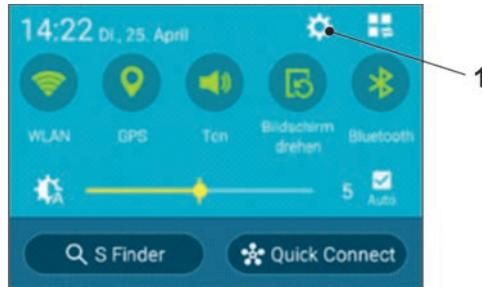

Fig. 26-1 Settings symbol
2. Open the corresponding menu using the Settings symbol (Fig. 26-1 Pos. 1).